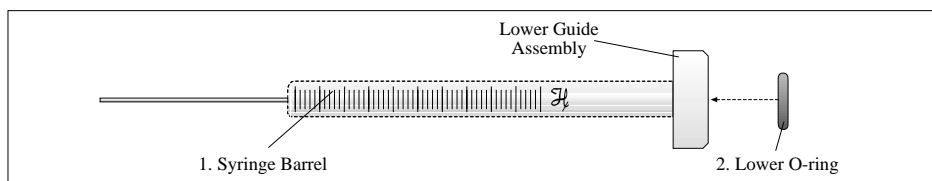

Figure 1
The installation procedure for Hamilton guides follows. Numbers in parentheses refer to part numbers in Figures 1, 2, and 3.
3. Place the syringe barrel (1) into the lower guide, with the syringe flange in the groove of the lower guide. Install the O-ring (2) into the groove using a small screwdriver (Figure 1).